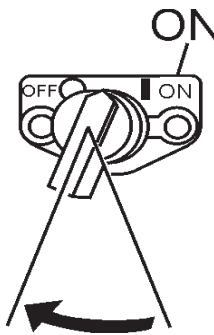

Figure 15. Engine ON/OFF Switch (ON Position)
5. Place the **engine ON/OFF switch** (Figure 15) in the "**ON**" position.